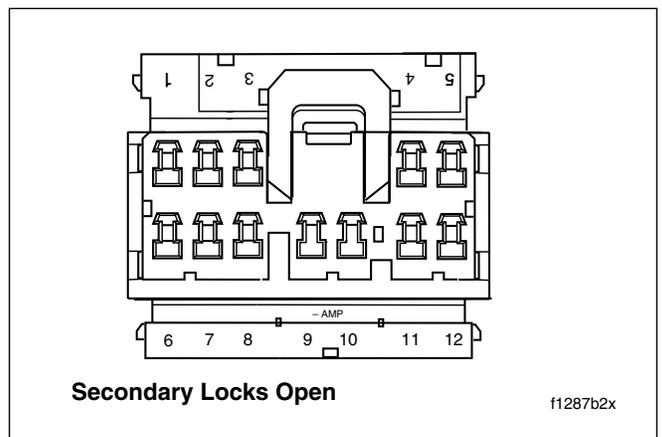

Figure 8-85. Numbers Stamped on Secondary Locks (Socket Housing Shown)
- Remove the appropriate terminals from the socket and/or pin housings. Follow the wires of the faulty switch or reference Table 8-14 for the applicable chamber numbers. For wire location purposes, numbers are stamped into the secondary locks. See Figure 8-85.
- c. Install terminals into socket or pin housing. See Table 8-14 and Figure 8-85.